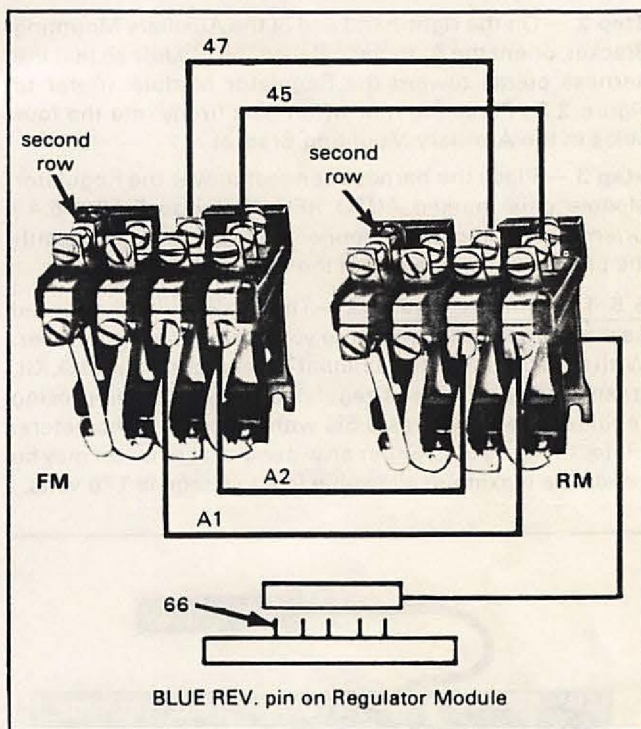

Figure 5.6 — Reversing Contactor Connections
**5.3 Reversing Contactor** — The standard FlexPak Plus controller offers unidirectional control. With an optional Reversing Contactor Kit and Auxiliary Panel, bidirectional operation (both forward and reverse) is possible. Motor direction is manually selected. Install the Auxiliary Panel onto the Basic Controller according to Paragraph 5.1. Mount the Reversing Contactor Kit on the right-hand side of the Auxiliary Panel with the three mounting screws provided. Connect the two power wiring harnesses and the control wiring harness as shown in Figure 5.6.